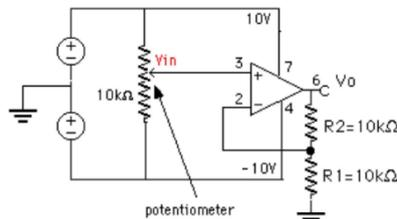

Figure 8: non-inverting amplifier
1. Build the circuit of Figure 8. Notice that this is the same non-inverting amplifier as the one in Figure 3b. The input voltage is derived from the power supply by a potentiometer, used as a voltage divider. Measure the actual values of the resistors R1 and R2 and the potentiometer and record them in your lab notebook.